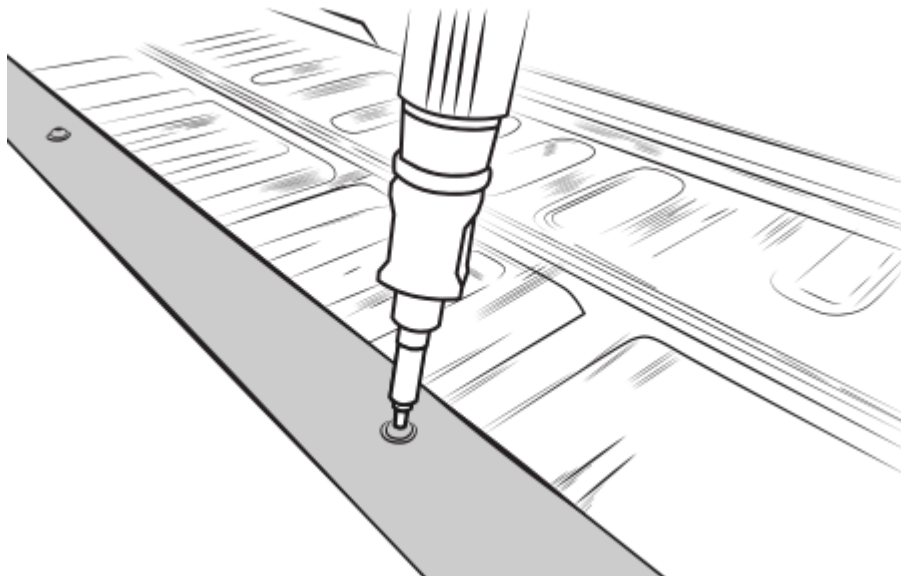

Figure 5
- b. Fit the Tailgate Rail , on top of the tailgate or on top of the tailgate liner if it has one. *See Figure 5*